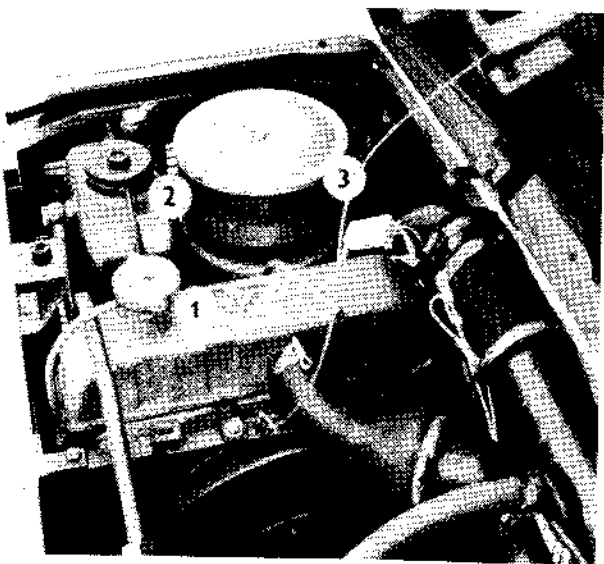

Fig. 6
2. Cooling liquid filling hole (Fig. 6/1).
11. Power-assisted steering tank oil filling hole (Fig. 6/2).